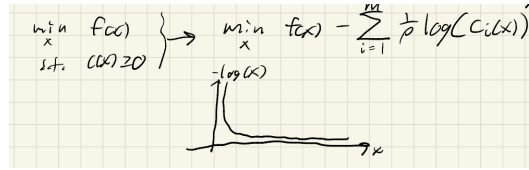

Figure 14: Barrier Function
- We replace the inequalities with a "barrier function", in the objective, that blows up at the constraint boundary fig. 14.